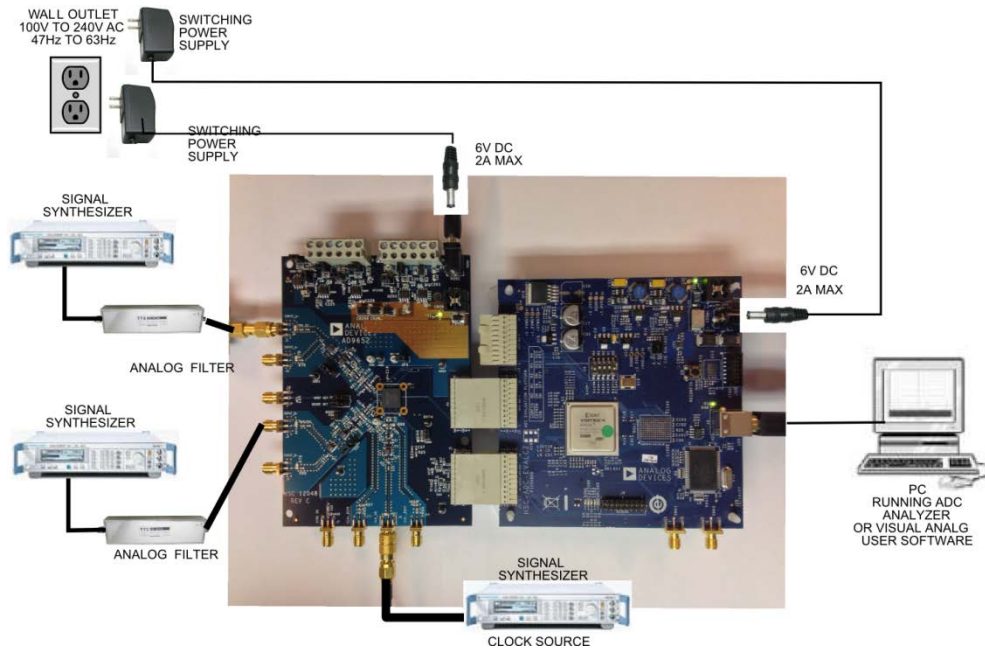

Figure 1: AD9652 Evaluation Board with HSC-ADC-EVALCZ Data Capture Board
1. Connect the AD9652 Customer evaluation board and the HSC-ADC-EVALCZ board together as shown in Figure 1. (Note these instructions are for Board HSC12048, Rev. C)